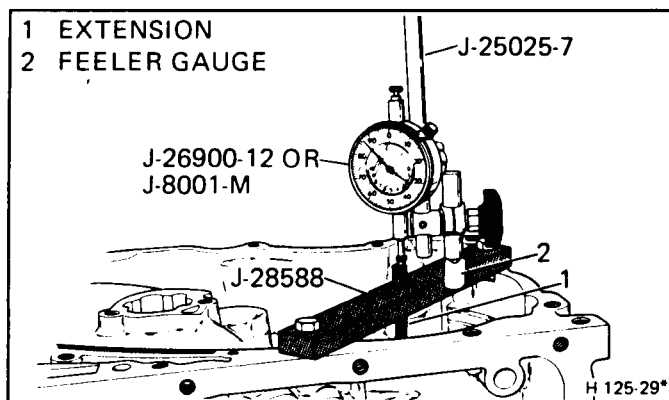

Figure 61 Selective Snap Ring End Play (Sun Gear/Input Drum)
**Install or Connect (Figure 61)**
1. Lo and reverse clutch housing (649) with J-28542 into case
### Measure (Figures 61 and 62)